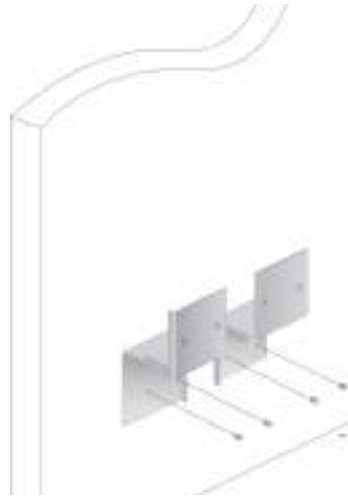

Figure 18. Driving the Screws through the Holes
6. Position brackets on the wall and drive screws through the holes to attach the brackets on the wall. See Figure 18.